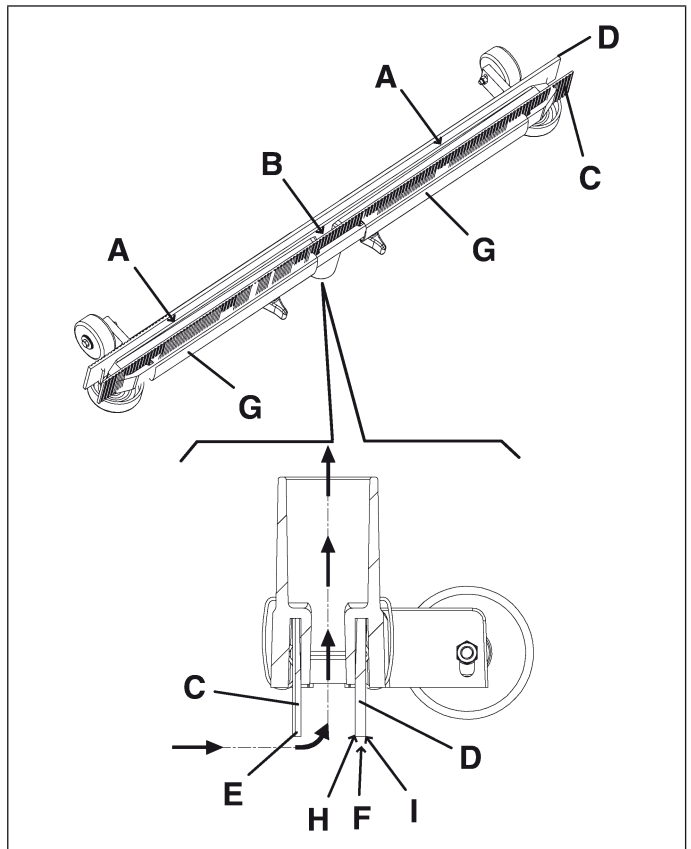

Figure 17
6. Check the front blade (C, Fig. 17) and the rear blade (D) for wear, cuts and tears; if required replace them according to the procedure in the "Squeegee Blade Check and Replacement" section below).
2. Check that the edge (E, Fig. 17) of the front blade and the edge (F) of the rear blade lay down on the same level, along their length; otherwise adjust their height according to the following procedure:
- Remove the fixing springs (G, Fig. 17) and adjust the front blade (C) and the rear blade (D).
3. Check the front blade (C, Fig. 17) and rear blade (D) for wear, cuts and tears. If necessary, replace them according to the following procedure:
- Remove the spring clamp (G, Fig. 17) and replace the blade.
- Reinstall the spring clamp (G, Fig. 17).